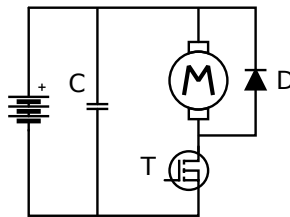

Figure 2: DC motor control circuit
**T.2.5 (10 points)** Drive the N-MOS transistor T (cf: figure 2) using the PWM signal you previously generated in order to control the motor speed. Use the potentiometer and the ADC in order to change the motor speed.